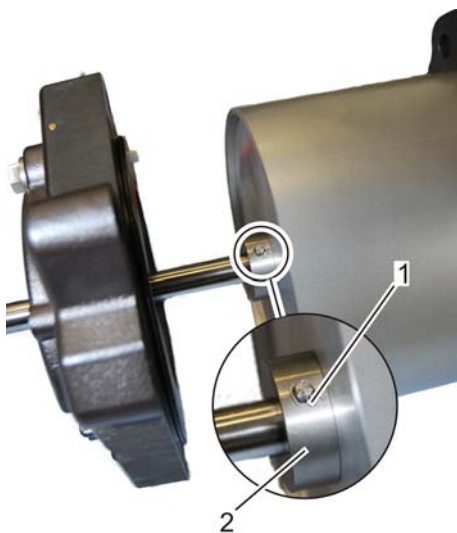

Fig. 69: Cotter pin
7. ➤ Remove cotter pin (Fig. 69/1) of socket pin from piston mount (Fig. 69/2).